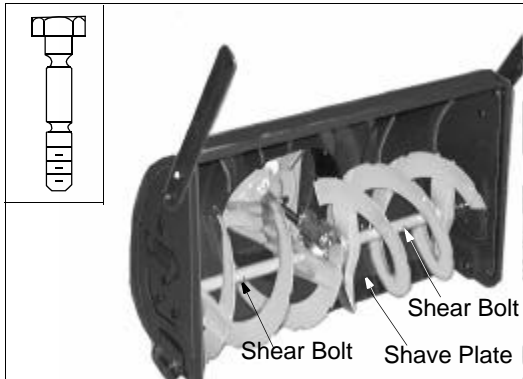

Figure 14
3. To remove shave plate, remove the skid shoe and the rest of hardware including carriage bolts, belleville washers and hex nuts which attach shave plate to the snow thrower housing. For location of shave plate, see Figure 14.